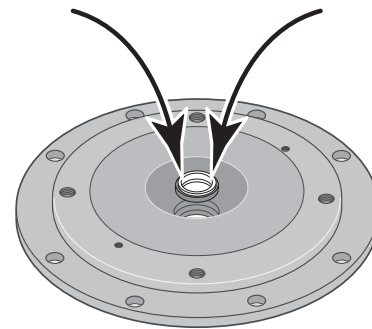

Figure 15: Press in New Seal
3. Put clean cardboard washer on seal face. The ceramic seal's polished face should be facing up. Firmly and squarely, press ceramic seal into cavity using only hand pressure (Figure 15).